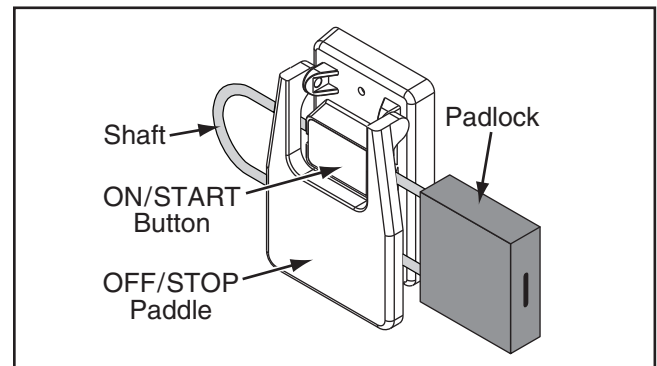

Figure 32. Padlock inserted through ON button.
6. Insert padlock shaft through ON button, as shown in **Figure 32**.